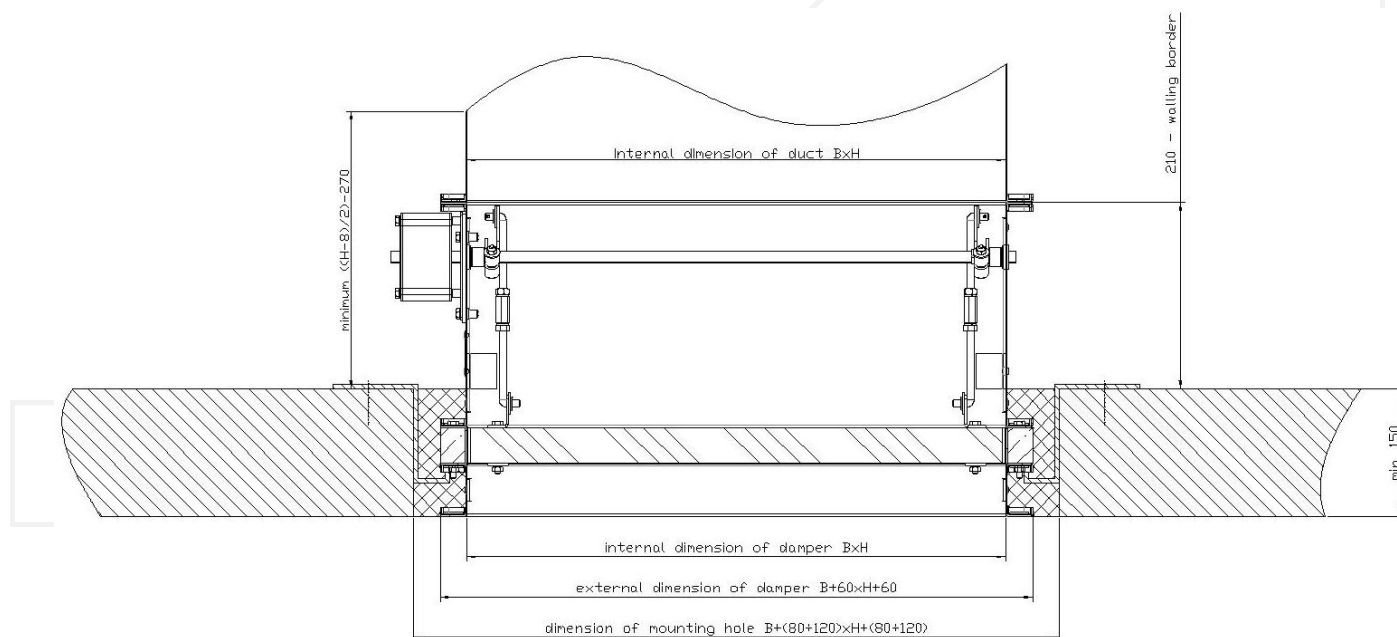

Figure 7. Installation method of smoke control dampers KWP-P in ceiling with a fire ventilation duct with sealing of cement mortar
- Make an opening in the PROMAT duct with the dimensions allowing for installing connection duct into them. (item 7),
- Connection duct which have been connect with a damper, connect with the duct with using screws and PROMAT L500 AND PROMATECT-H, and insulate according to Fig. 7.